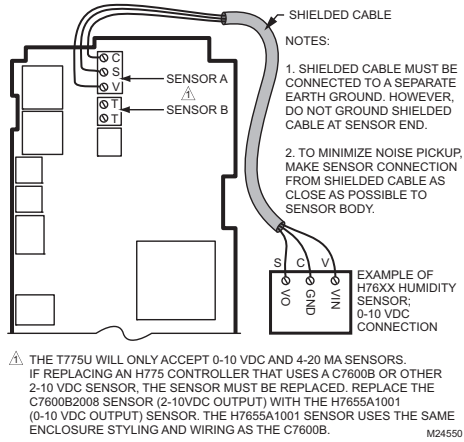

Fig. 5. Sensor Wiring — 3-wire shielded cable connection from Sensor A to 0-10 Vdc sensor (H76xx humidity sensor shown).
The sensors in Fig. 5 – 8 beginning on page 6 are examples and illustrate voltage and current wiring for 3-wire and 2-wire sensors to the Sensor A terminal. For terminal wiring details, see Fig. 11 and Table 2 on page 8. Other sensors are supported. See sensor descriptions on page 2.
1. Other transmitters can be wired in the same manner. For example, the 0-10Vdc wiring shown in Fig. 5 on page 6 with the H76XX sensor can also be done with the P7640 or any other transmitter.